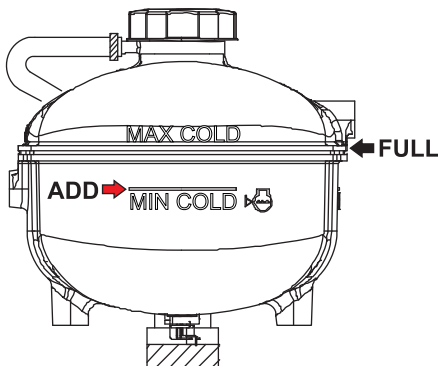

Figure 39. Coolant Reserve Tank
1. Verify that the coolant level in the coolant reserve tank is between the **MIN** and **MAX** markings as shown in Figure 39.